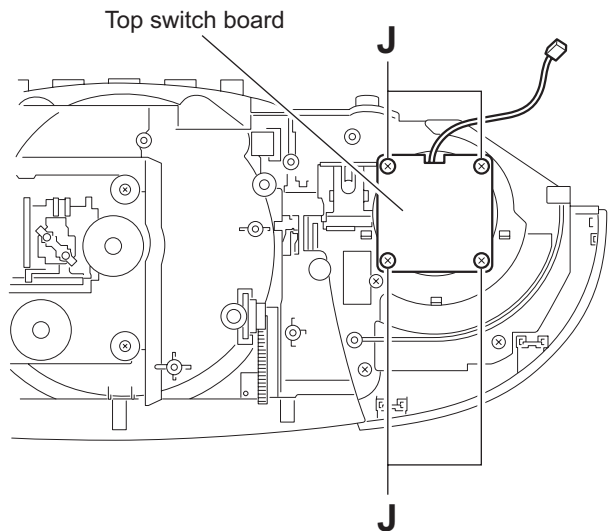

Fig.12
3.1.5 Removing the top switch board (See Fig.12)